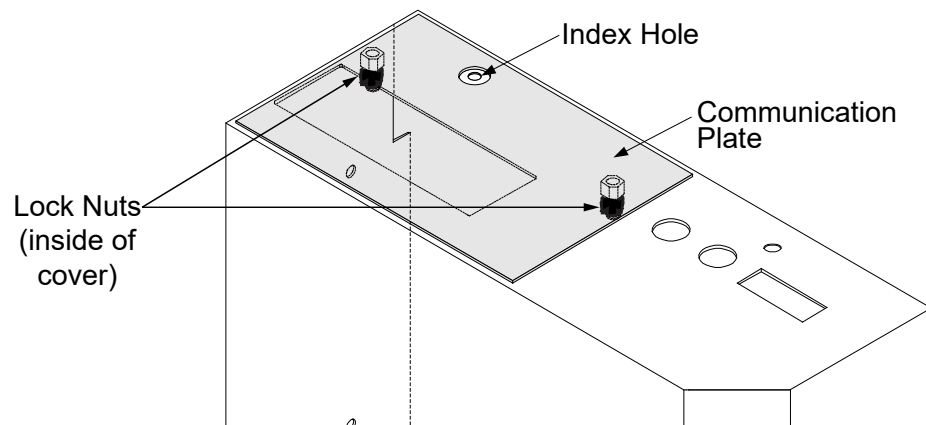

Figure 2-5 M-6200A Control Rear Cover, Communication Plate Orientation
1. Remove and discard the two lock nuts (Figure 2-5) from the inside of the rear cover; then remove the communication plate.
2. Insert the appropriate communication plate onto the top panel of the rear cover, ensuring that the index hole (Figure 2-5) is exposed.
3. Install the kit's lock nuts onto the communication plate's captive screws to secure the rear cover (Figure 2-5).